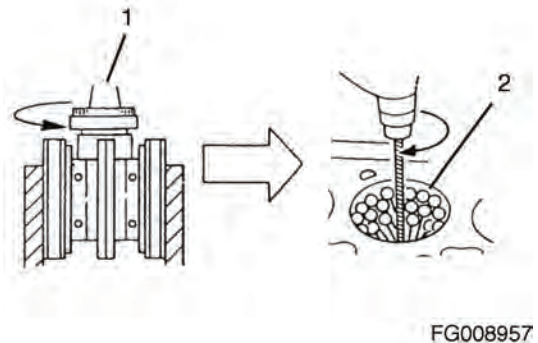

Figure 206
2. Honing - Minor cylinder imperfections may be corrected by using a rigid cylinder hone (1, Figure 206). Be sure not to exceed the maximum cylinder bore specification.
Deglazing - A used cylinder that did not require boring or honing, should always be deglazed with a ball hone (2, Figure 206) before installing new piston rings. This will properly prepare the cylinder surface to allow new piston rings to seat properly.
- Use a 300-grit hone at 300-1200 rpm (Figure 206).